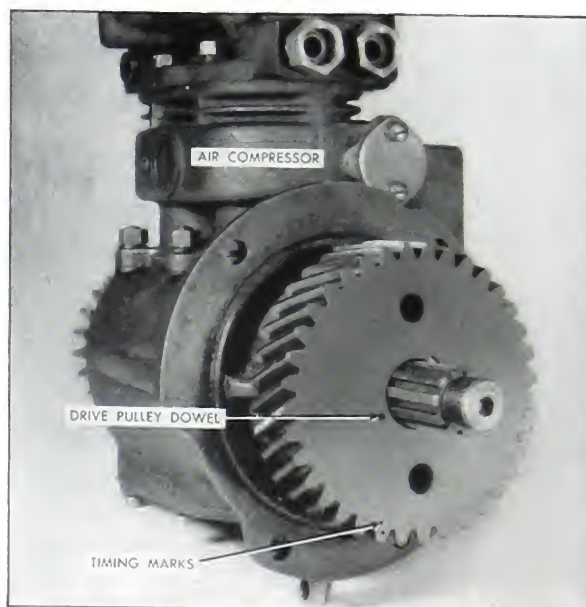
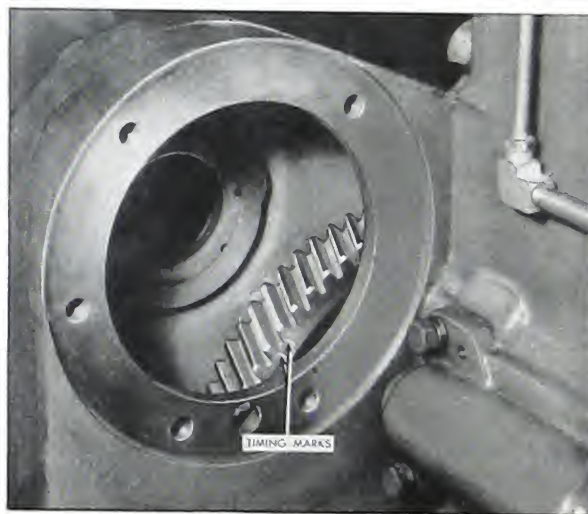

Fig. 12-16. Timing marks on air compressor gear
Fig. 12-17. Timing marks on camshaft gear
2. Mesh the compressor gear with the camshaft gear by indexing the one punch-marked tooth on the compressor gear (Fig. 12-16) between the two punch-marked teeth on the camshaft gear. (Fig. 12-17).
Set position. In this position, the two punch-marked teeth on the cam gear will show through the hole in the gear case. (Fig. 12-17). Refer to "TIMING MARKS ON CAM GEARS", Page 2-8.
3. Turn the crankshaft one-fourth turn past No. 1 Top Center position to No. 1-6 V.S., or 1-4 V.S. for 4 cylinder engines. At this position, two dash-punch-marked teeth on the cam gear will show through the hole in the gear case. (Fig. 12-16). Refer to "TIMING MARKS ON CAM GEARS", Page 2-8.